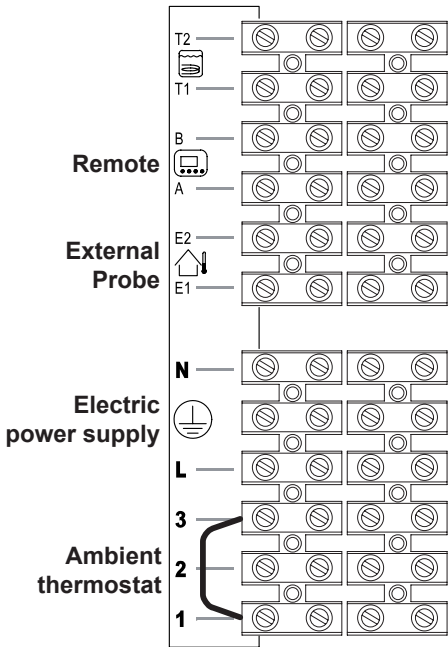

Fig. 6.27
Use the clamps indicated in Fig. 6.27 to connect the external probe.
Use the clamps indicated in Fig. 6.27 to connect the remote.
**Do not remove the electric jumper connected on the ambient thermostat terminal block between "1 and 3" Fig. 6.27.**